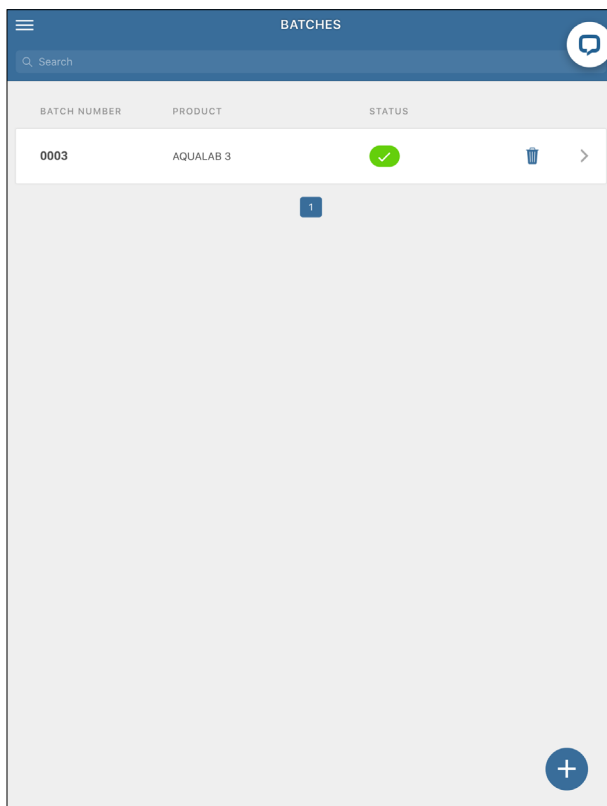

Figure 48 Example Batches page
The Batches window will open showing a list of batches (Figure 48).
3. Select the right-pointing arrow at the far right of the batch to be tested (Figure 48).